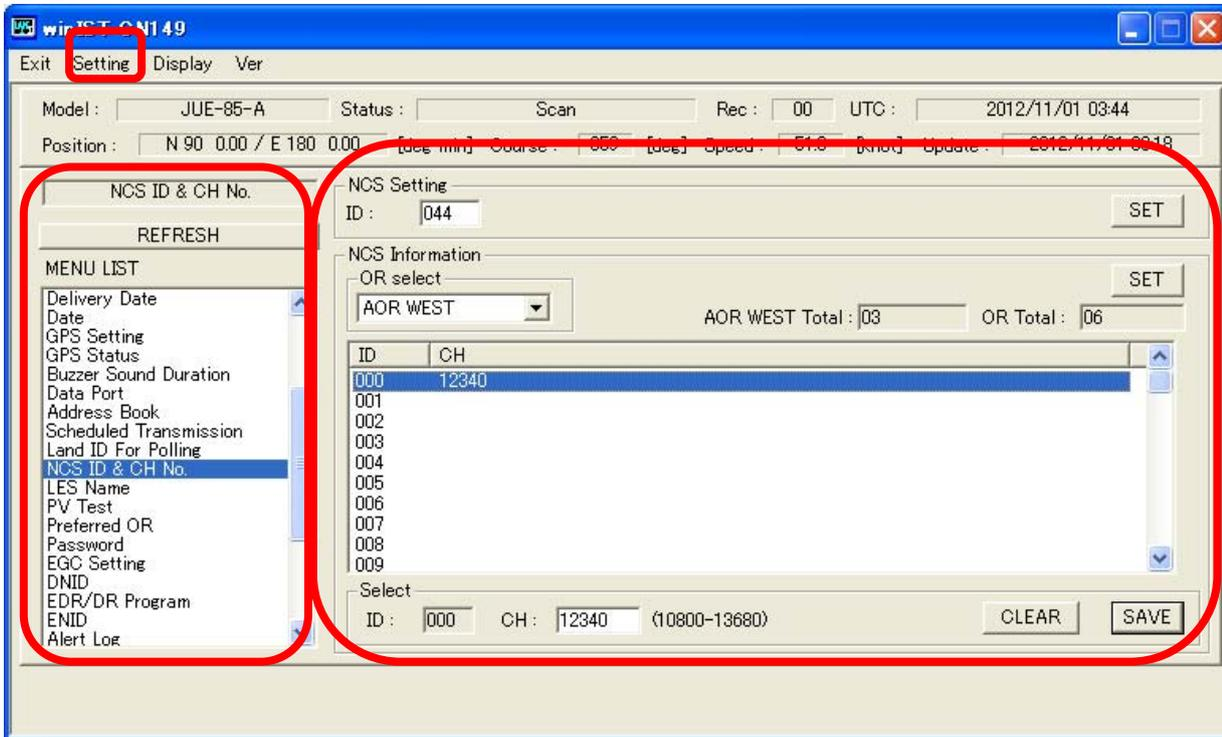

Fig. 4-20-1 [NCS ID & CH No.] screen
1. Operation except [Exit], [Display], and/or [Ver] is not possible while winIST is communicating with INMARSAT terminal(the function in the frame of **Fig. 4-20-1 [NCS ID & CH No.] screen** cannot be operated.)